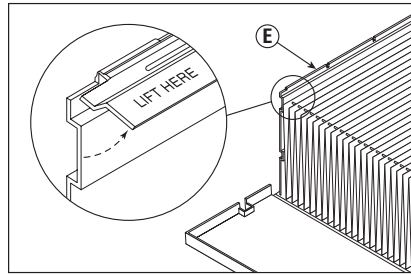

Figure 5
- B. Close hinged brackets (Figure 5E) over cardboard flaps (Figure 6C) centered on sides as shown in Figure 5. Press firmly along entire edge of both brackets so brackets snap into place.